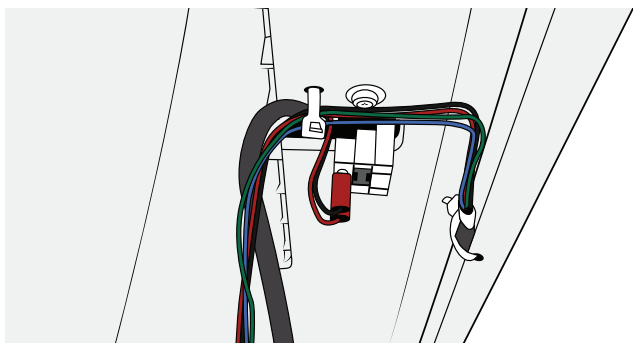

Figure 94
34. Position the Ambient light connector and Emergency stop cables in the same position as before. Strap them with cable ties under the rim. See Figure 94.